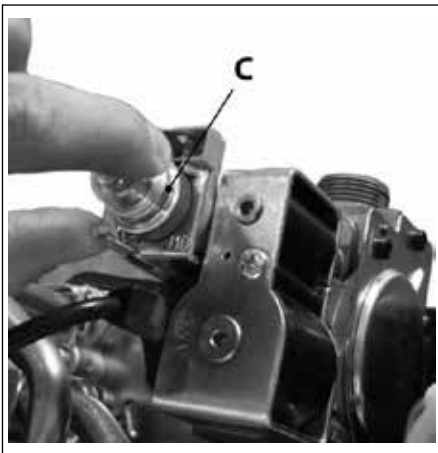

Fig. 47 Gas valve modulation coil
- Remove plastic cap **C** (see Fig. 47 Gas valve modulation coil) at the top of the modulation coil, protecting the pressure regulator adjuster screws.